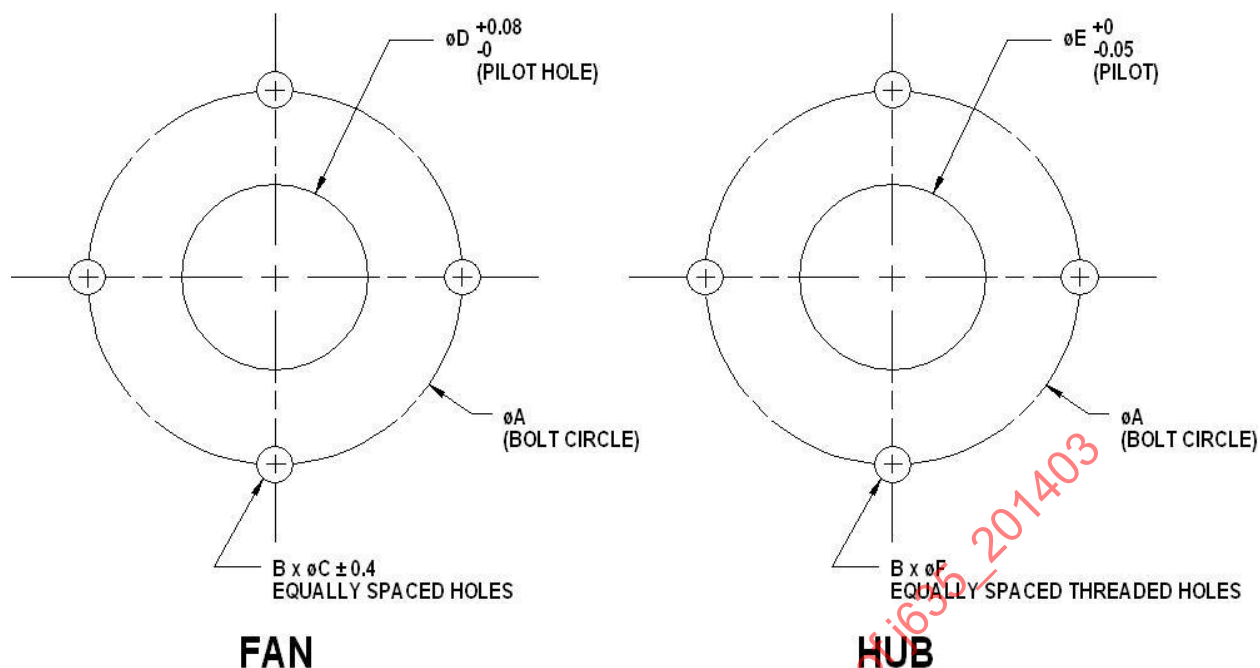

FIGURE 1 - FIXED DRIVE MOUNTING PATTERNS
Table 1 lists several bolt circle patterns for each pilot (refer to Figure 1 for definitions). Since large, flat center sections of fans with small pilots and bolt circle diameters are prone to fatigue-related failures from first-mode flexure, it is recommended that the largest diameter bolt circle be chosen, consistent with available space or hub size, to ameliorate such problems.
3.2.2 Table 2 lists recommended pilot and bolt circle diameters (refer also to Figure 1).
The following guidelines should be considered in determining tolerance specifications for part drawings of the fan and hub as shown in Figure 1.